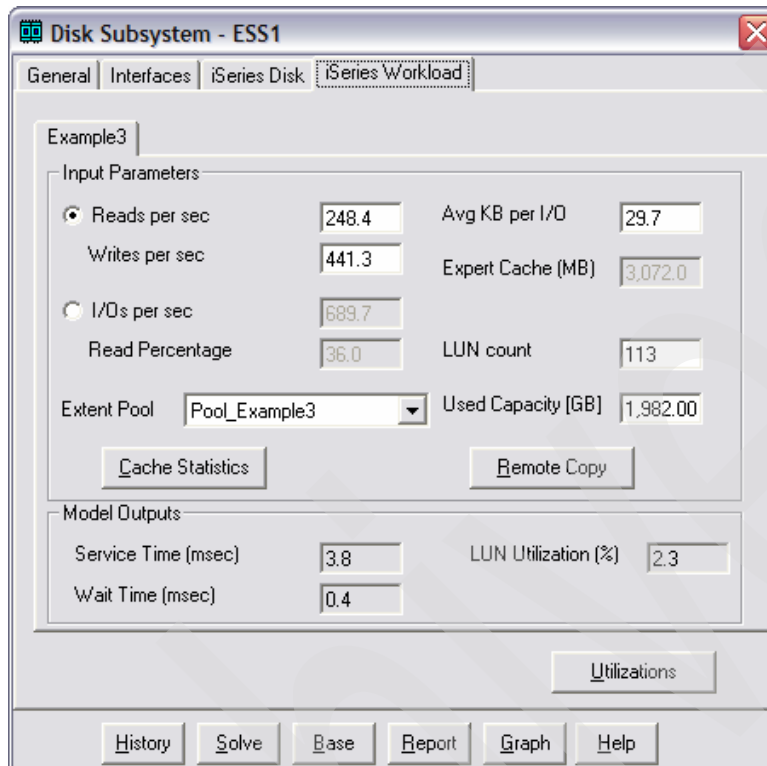

Figure 4-87 Modeled service time and wait time
- j. In the Disk Subsystem - ESS1 window, click **Solve** to ensure that the planned DS configuration is modeled for the current workload. On the iSeries Workload tab (Figure 4-87), notice the modeled disk service time and wait time. In our example, the modeled service time is 3.8 ms, and the modeled wait time is 0.4 milliseconds.